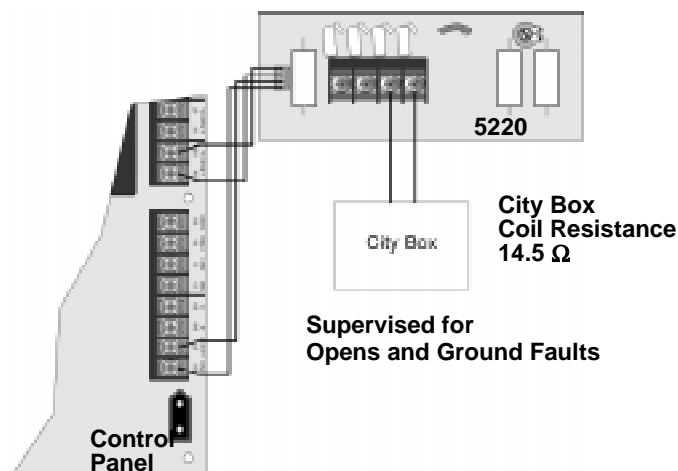

Figure 3-23 City Box Connection
2. Wire the 5220 to the SK-5208 as shown in Figure 3-23. This drawing also shows how to connect the city box coil to terminals 3 and 4 on the 5220.